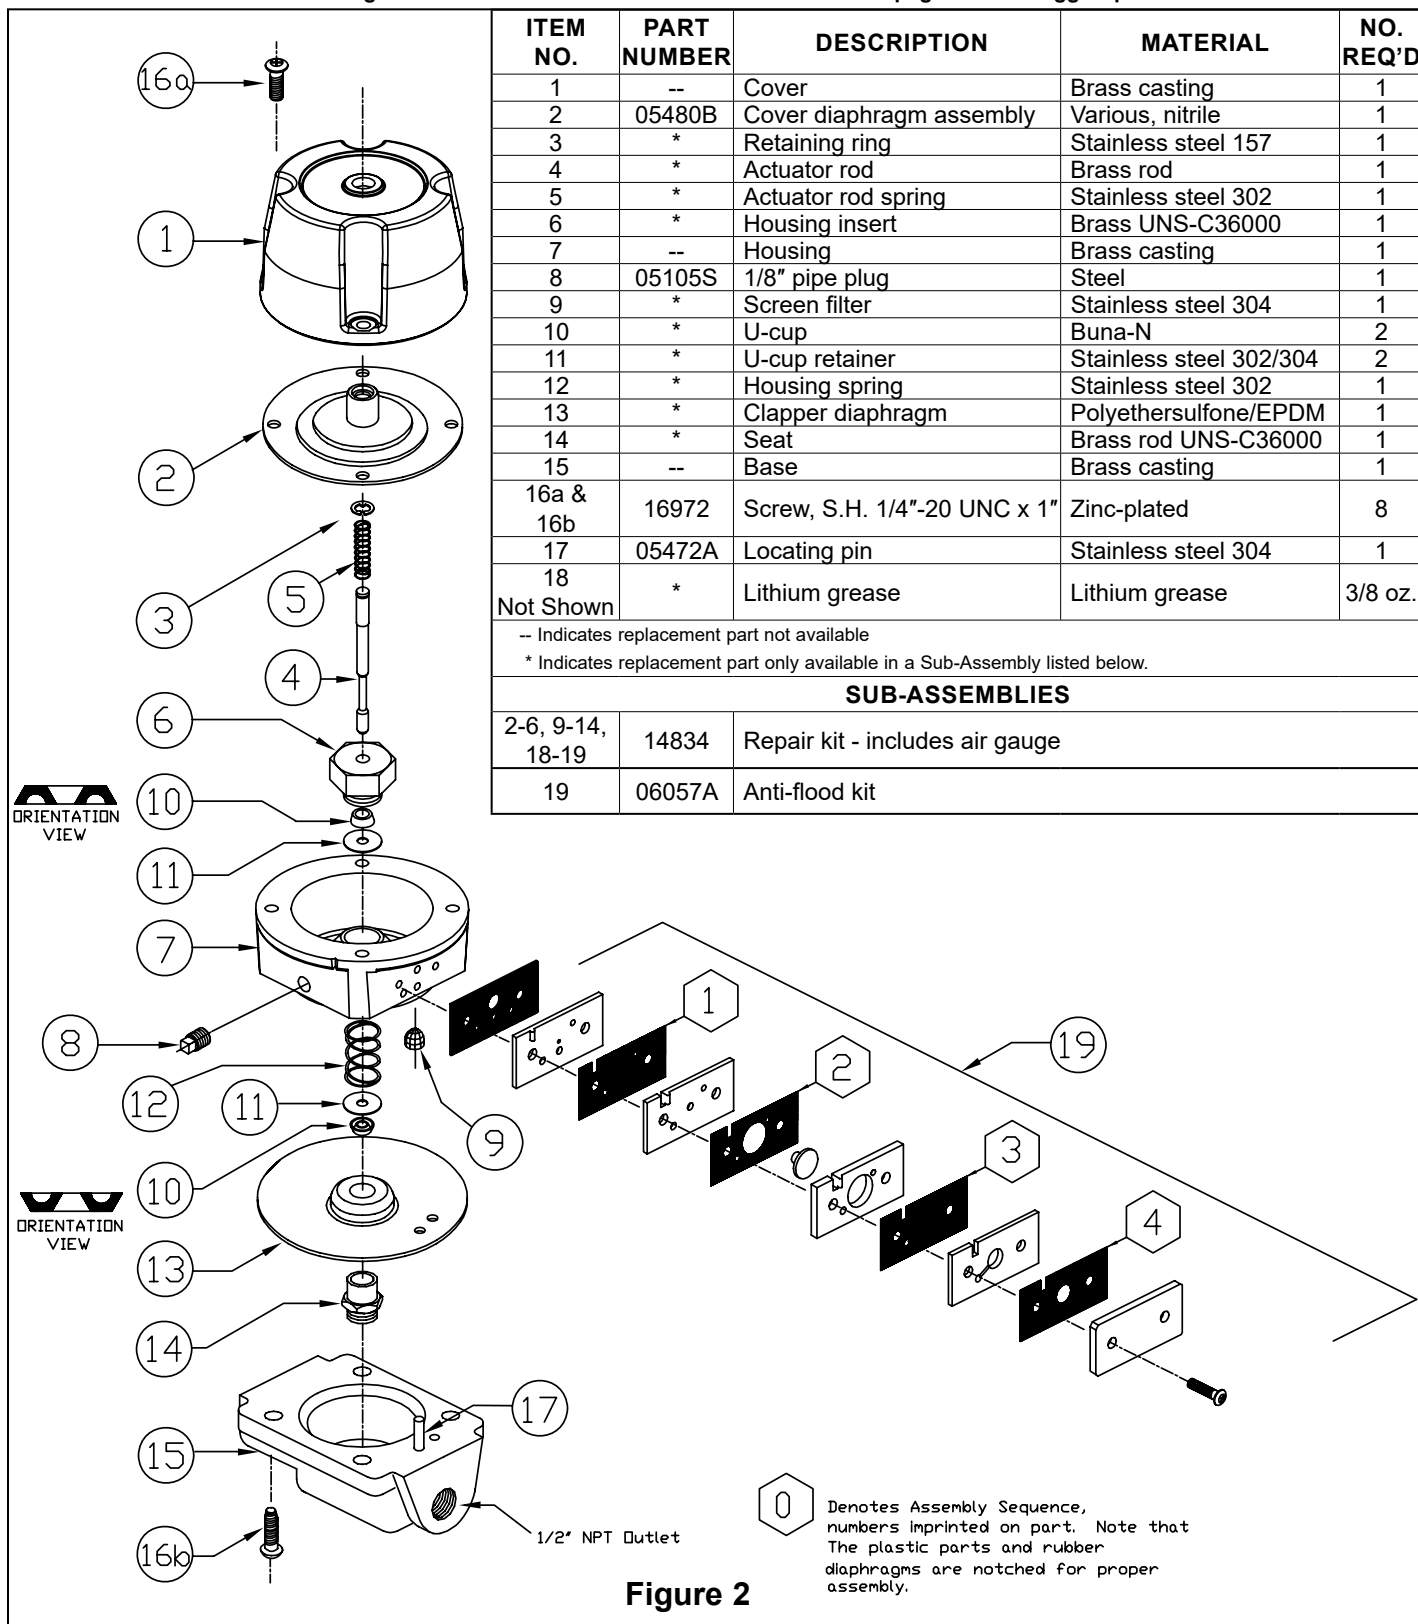

Figure 2
### C. Accelerator Maintenance (Refer to Figure 2.)
#### II. Disassembly (Refer to Figure 2.)
6. Re-install the housing (7) onto the base (15) by lining up the hole in the housing (7), with the locating pin (17).
7. The accelerator can now be turned over so that the base (15) is in the upright position, and the four socket head screws (16b) can now be installed into the base (15) using a 3/16" Allen wrench.
8. Turning the accelerator over so that the housing (7) is now in the upright position, the housing spring (12) can now be installed into the housing (7).
9. Before installing U-cup (10) and U-cup retainer (11) into the housing insert (6):
- a. Apply the Lithium grease (18) evenly spread on the U-cup (10) and U-cup retainer (11).
- b. Install the U-cup (10) and U-cup retainer (11) into the housing insert (6) with the tapered side of the U-cup (10) installed into the housing insert (6).
10. Install the housing insert (6) into the housing (7), making sure that the center of the housing insert (6) lines up with the housing spring (12) and using a socket wrench with a 1-3/8" socket to install the housing insert (6).
11. Install the actuator rod spring (5) onto the actuator rod (4).
12. Install the actuator rod (4) into the housing insert (6).
13. Install the cover diaphragm assembly (2) onto the cover (1).
**NOTE: THE COVER DIAPHRAGM ASSEMBLY IS NOT PART OF THE REPAIR KIT. IT IS OFFERED AS AN INDIVIDUAL COMPONENT ONLY. SEE FIGURE 2.**
14. Install the cover (1) onto the housing (7) verifying that the center of the cover diaphragm assembly (2) lines up with the actuator rod (4).
15. The four cover screws (16a) can now be installed into the cover (1) using a 3/16" Allen wrench.